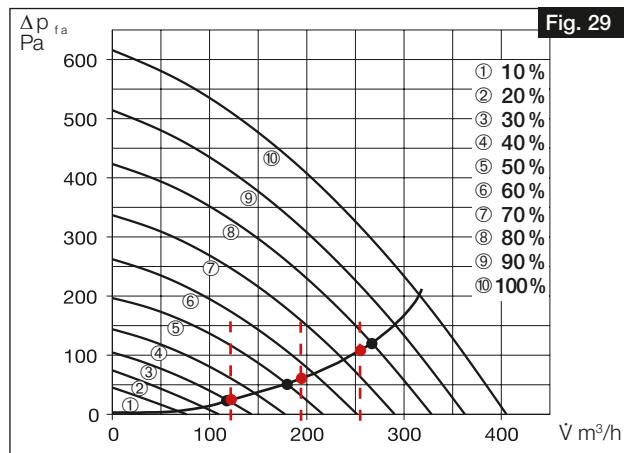

Fig. 29
1. Enter the flow rates from the design calculation for the three ventilation profiles "At home", "Away from home" and "Intensive ventilation" in the unit characteristic curve for supply and extract air (cf. Fig. 29).
① We recommend setting the following values in the ventilation profiles:
2. The approximate fan powers to be set (in %) can be read from the ventilation profiles at the points of intersection of the flow rates and the system characteristic curve. Enter these in the corresponding ventilation profile via the easy-Controls 3.0 software or the control element KWL-BE Touch (cf. Fig. 29 and Fig. 30).